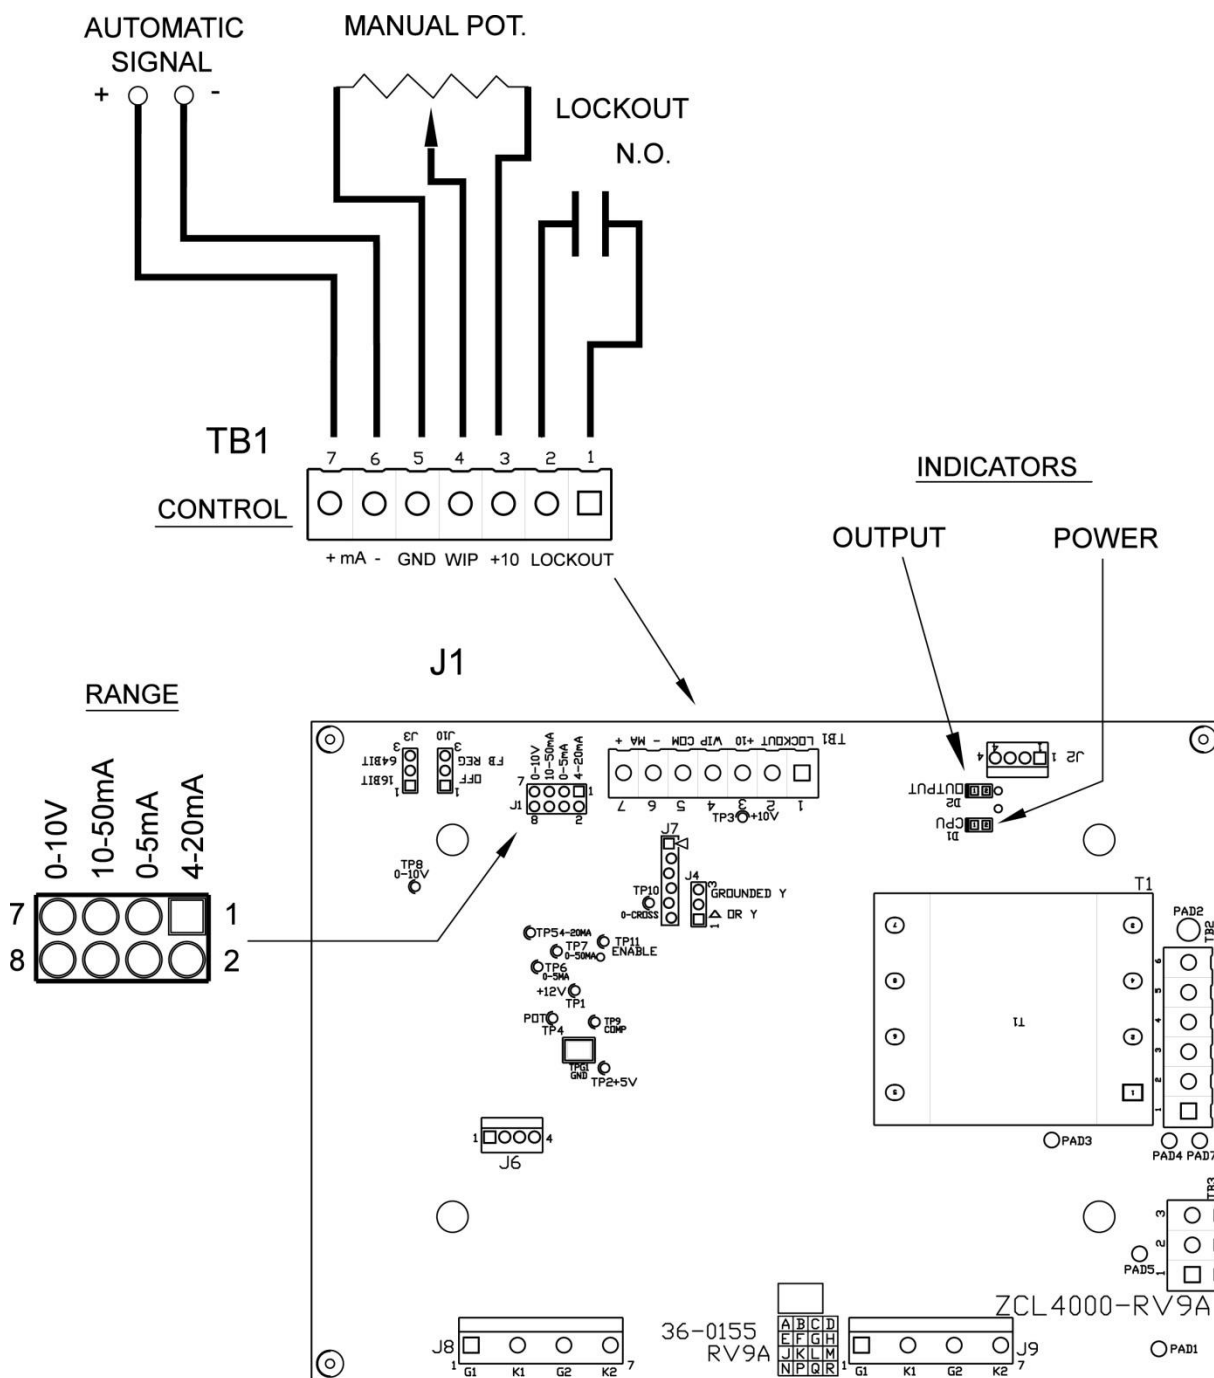

Figure 2
3. Check “J1” plug for correct position to match your automatic control signal. The unit is shipped with the jumper in the 4-20 mA position. See figure 2.